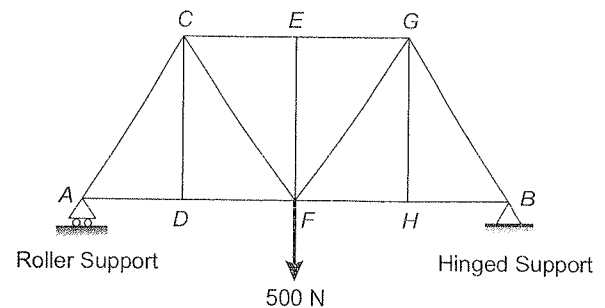

Fig. 2.2
1. **Roller Supports** : Roller support are frictionless and provide a reaction at right angles to the roller base as shown in fig. 2.2. Roller supports are frictionless and free to rotate and translate along the surface upon which the roller rests and it prevents motion only in the direction perpendicular to its base.